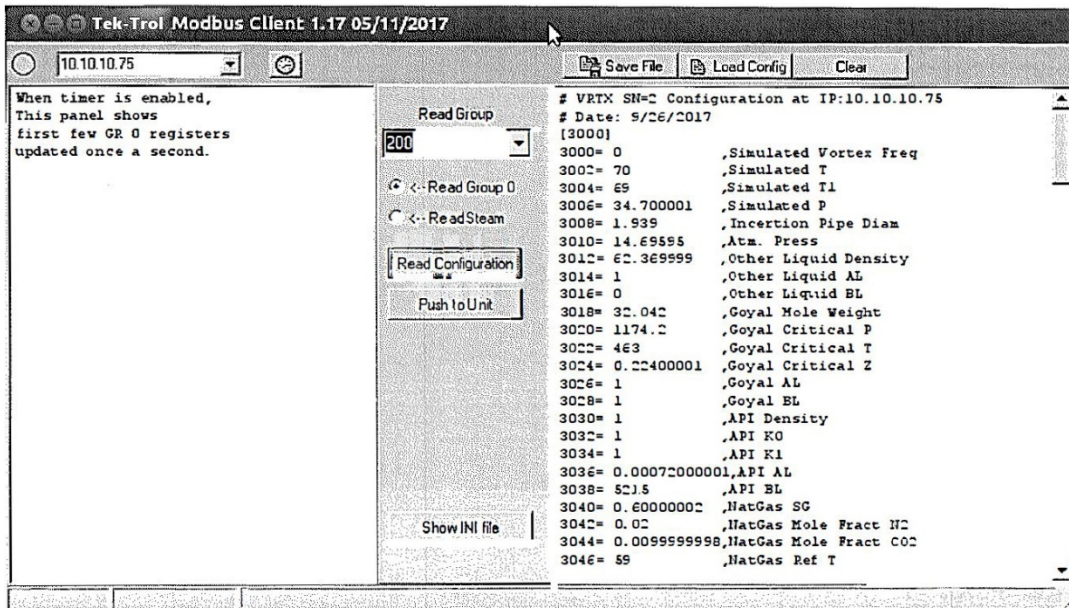

Fig 24: MBGUI. EXE Simple Modbus/TCP client
- Figure 24 shows the simple Modbus/TCP client configured for use with the meter. The names and locations of registers are stored in the mbgui.ini file.